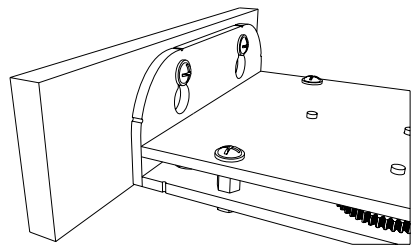

Figure 4.
- Vertical surface (*fig. 4*).